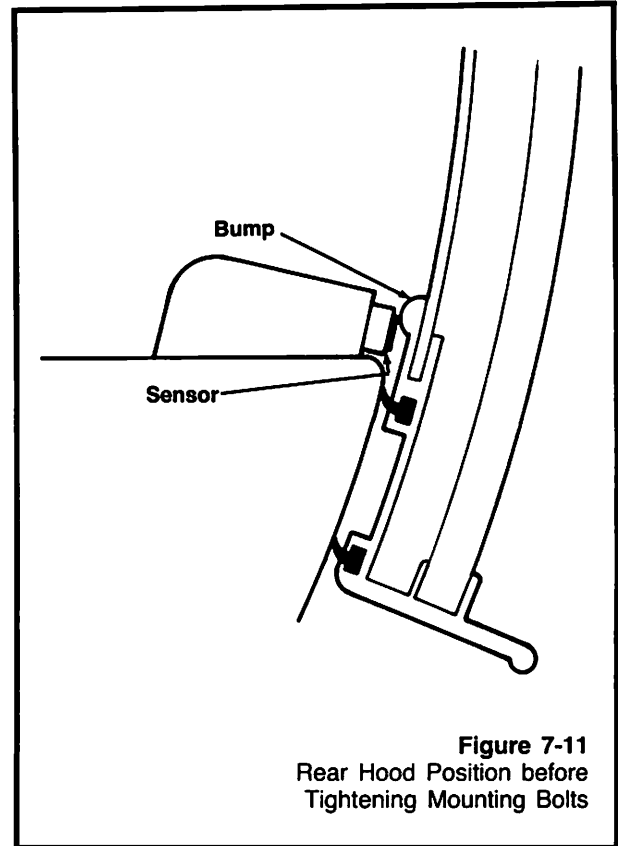

Figure 7-11
3. While maintaining the same relative position between front and rear hood sections, rotate both hood sections until the top of the black sensor button aligns with the center of the rear retainer bump (Fig. 7-11).